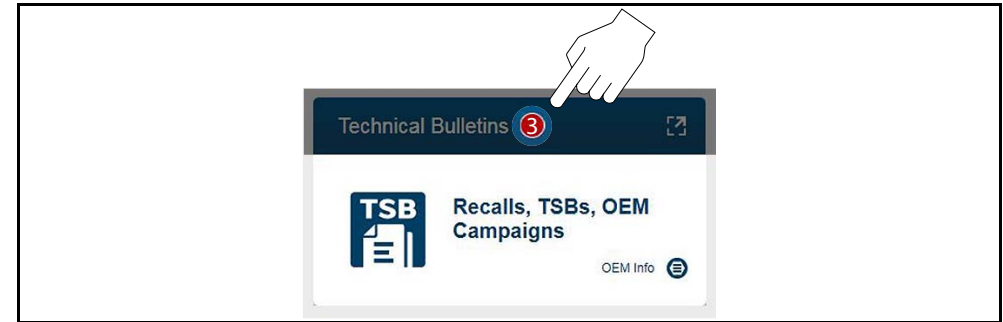

Figure 6-8 Technical Bulletins card
The Technical Bulletins card (*Figure 6-8*) provides a quick link to OEM Recall, TSB and Campaign information that may be available for the selected code.
- A red icon (*Figure 6-8*) indicates the total number of Recalls, TSBs, and OEM Campaigns that have been found.